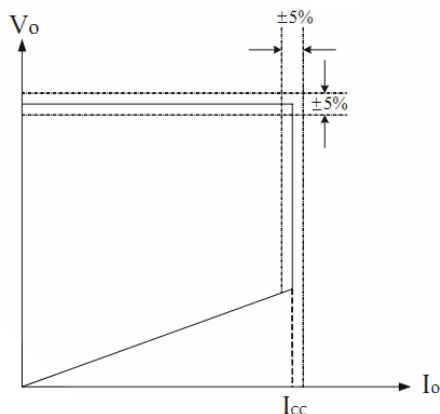

Fig.1. Typical CC/CV Curve
Proprietary Constant Voltage (CV) and Constant Current (CC) control is integrated as shown in Fig.1. In CC control, the current and output power setting can be adjusted externally by the sense resistor R_S at CS pin. In CV control, multi-mode operations are utilized to achieve high performance and high efficiency.